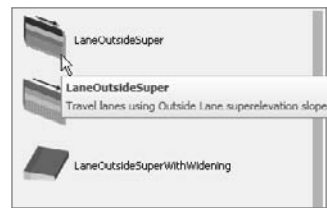

Figure A.73
4. Click the `LaneOutsideSuper` button on the tool palette, as shown in Figure A.73. The AutoCAD Properties palette will appear. Position the palette on your screen so that you can clearly see both the assembly baseline and the Imperial-Roadway tool palette.